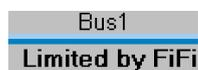

Figure 6.40: Message “Limited by FiFi”
- the other generator indicators are yellow as well if this power limitation is applied to all the generators connected to the same bus (even if some of them are not driving Fi-Fi pumps) and the message “Limited by FiFi” is displayed below the bus symbol (Figure 6.40).